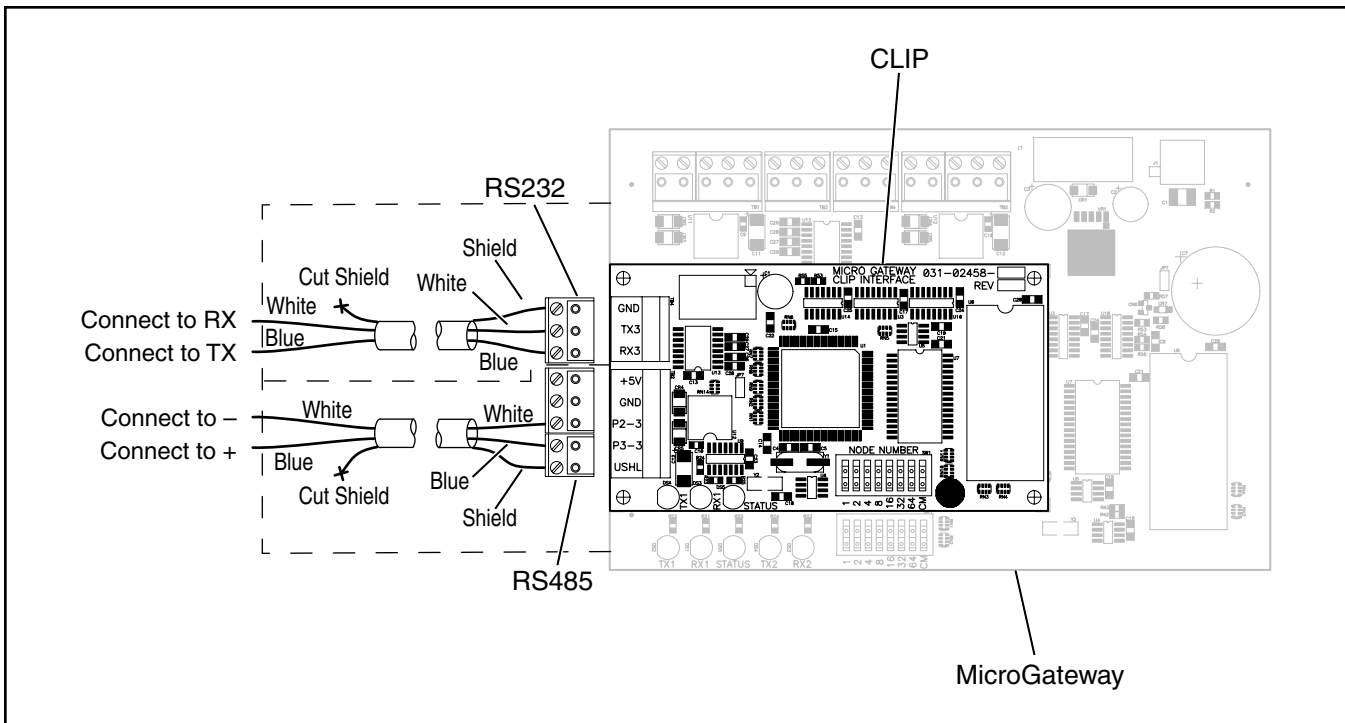

Figure 11. Communication Connection to Port 3
5. If applicable, connect the Modbus cable to Port 3 using either TB2 or TB4 on the CLIP. Refer to Figure 11 for wiring details.
The CLIP uses Modbus communications which can operate on an RS232 or RS485 layer via Port 3. Port 3 has connectors labeled TB4 (RS232) and TB2 (RS485) to accommodate either type of signal. Refer to Figure 11 for details on connecting the Modbus RTU monitoring network.